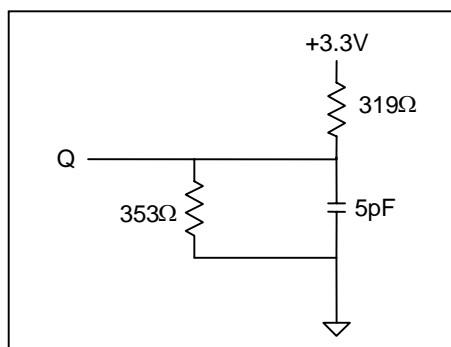

Figure 2
3. The load used for V_{OH}, V_{OL} testing is shown in Figure 2. AC load current is higher than the shown DC values.
2. Output loading is specified with $C_1=5\text{pF}$ as in Figure 2.